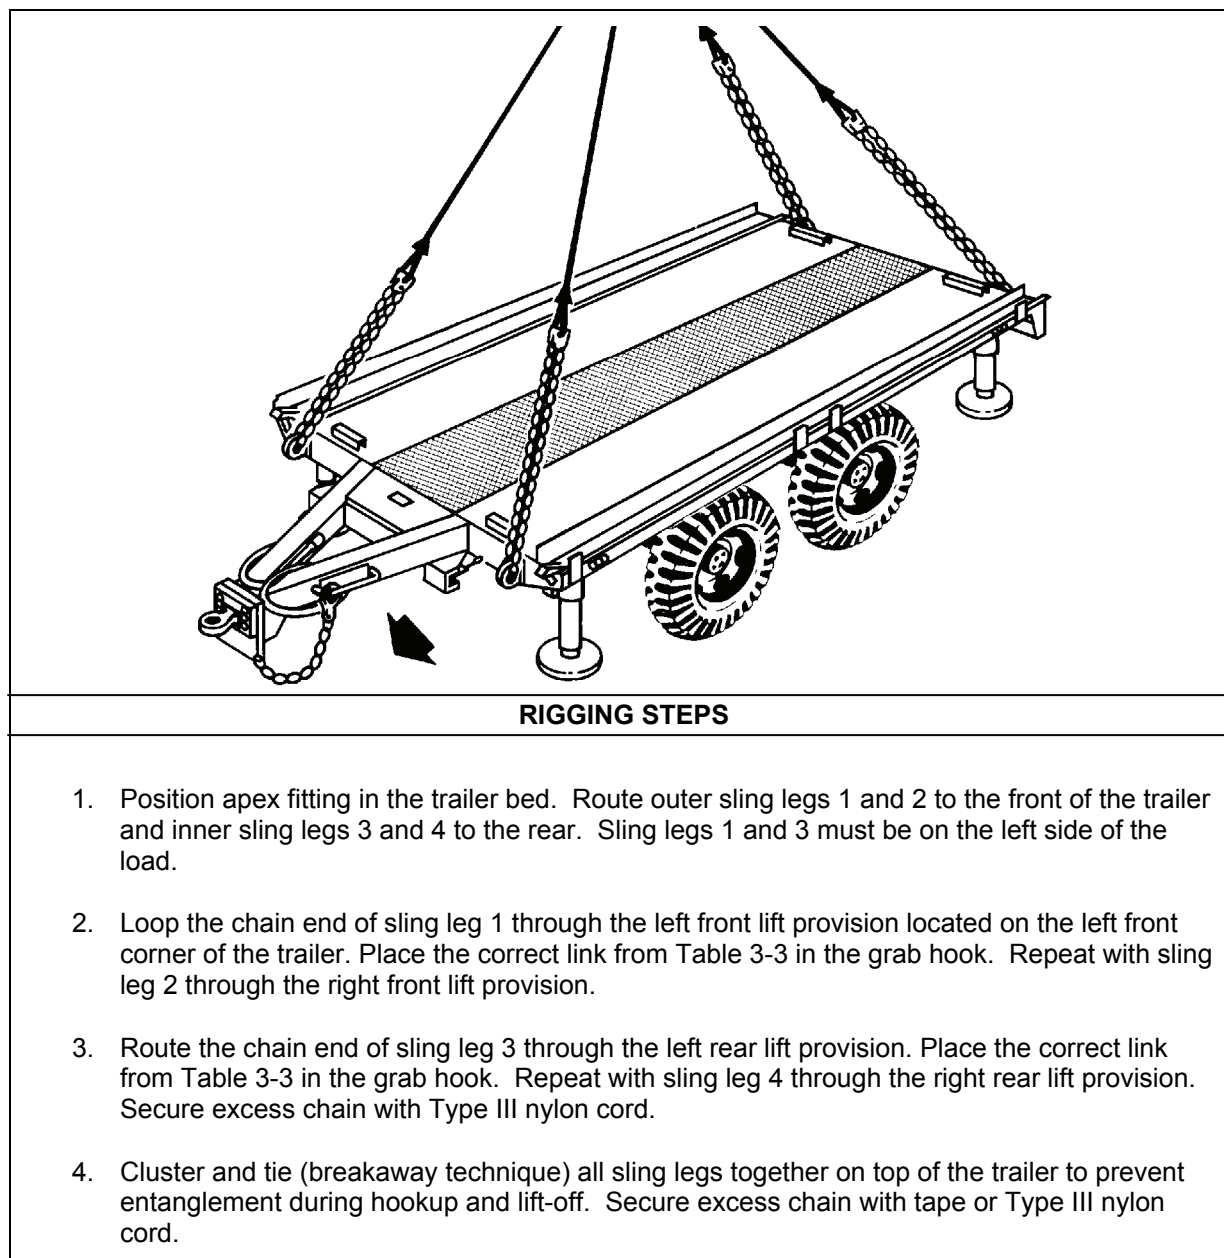

Figure 3-3. M1048/M1073 Trailer
- **Rigging.** Rig the load according to the steps in Figure 3-3.